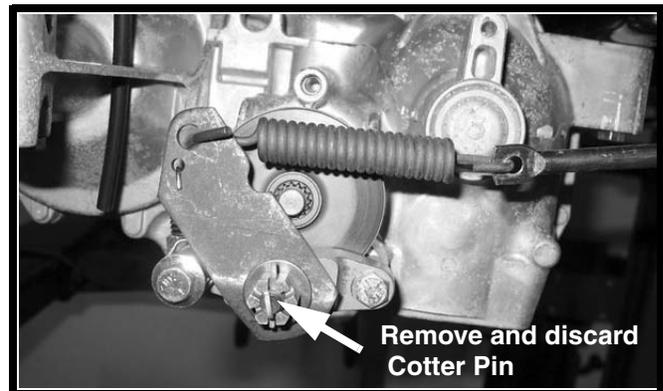

FIGURE 2
7. Locate the castle nut on the right hand transmission assembly. Remove and discard the cotter pin locking the castle nut on the brake caliper. See Figure 2.